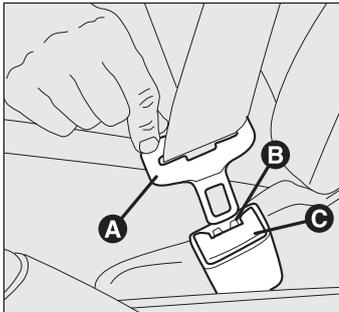

fig. 122
### USING THE SEAT BELTS fig. 122
**Never press button C-fig. 122 when travelling.**